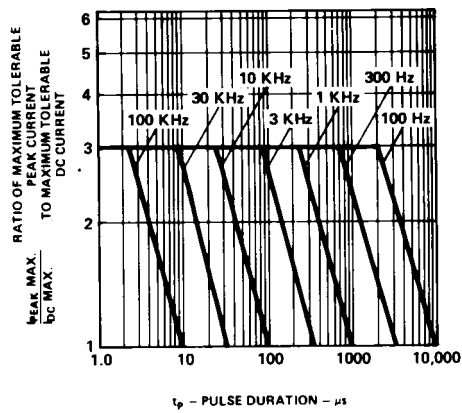

Figure 2. Maximum Tolerable Peak Current vs. Pulse Duration. ( $I_{DC}$  MAX as per MAX Ratings).
1. See Figure 2 to establish pulsed operating conditions.